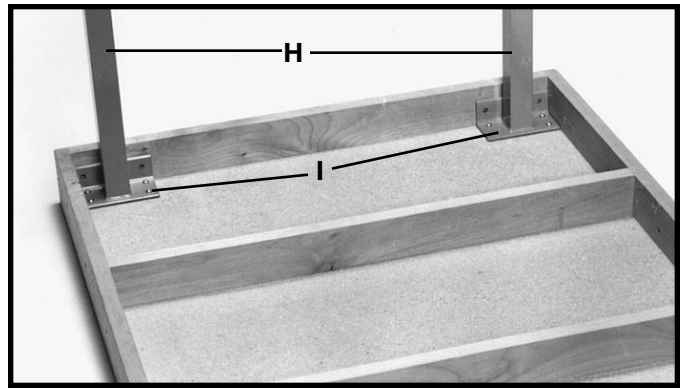

Fig. 104
1. Position the two legs (H) Fig. 104, at the two far corners of the inside of the extension table, as shown, and mark the position of the eight holes to be drilled into the bottom of the table. Remove the two legs (H) and using a $\frac{1}{16}$ " drill bit, drill the eight holes $\frac{1}{2}$ " deep. Replace the two legs and fasten to the bottom of the table using the eight $\frac{3}{4}$ " wood screws (I) supplied.